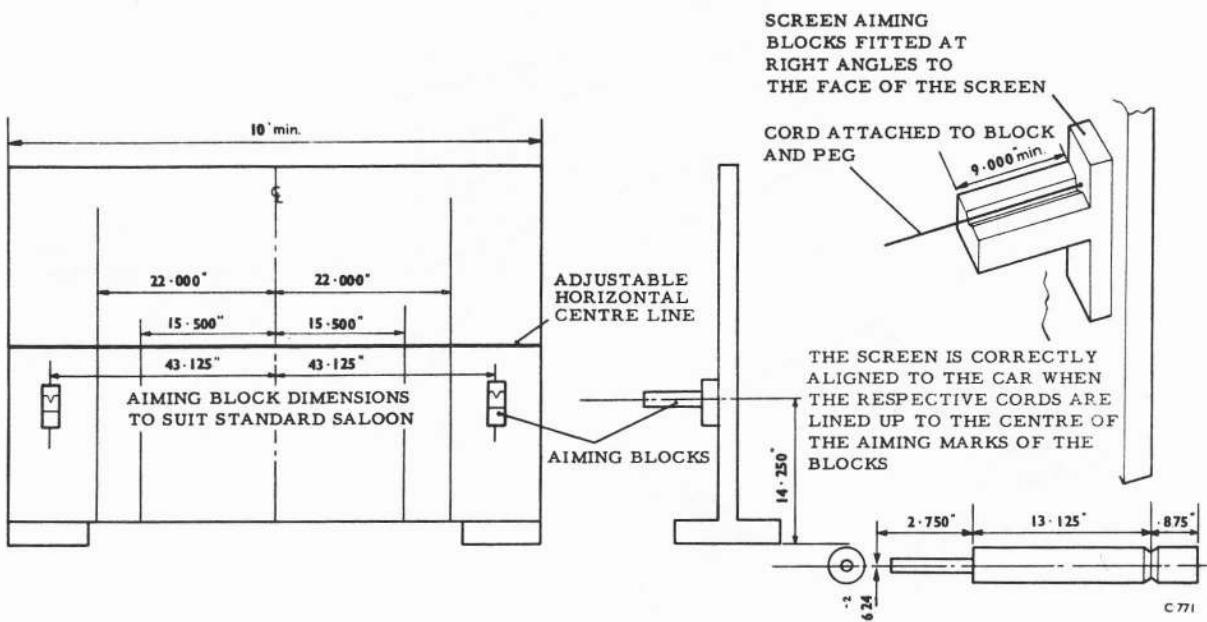

Fig. 1 Headlamp aiming screen
- 1 A matt white painted screen marked and made to the dimensions as shown in Figure 1. The screen should be movable and be provided with aiming blocks and cords, also shown in Figure 1
- 2 A cord anchorage peg which fits into the hole in the rear axle shaft. The peg should be made to the dimensions shown in Figure 1.